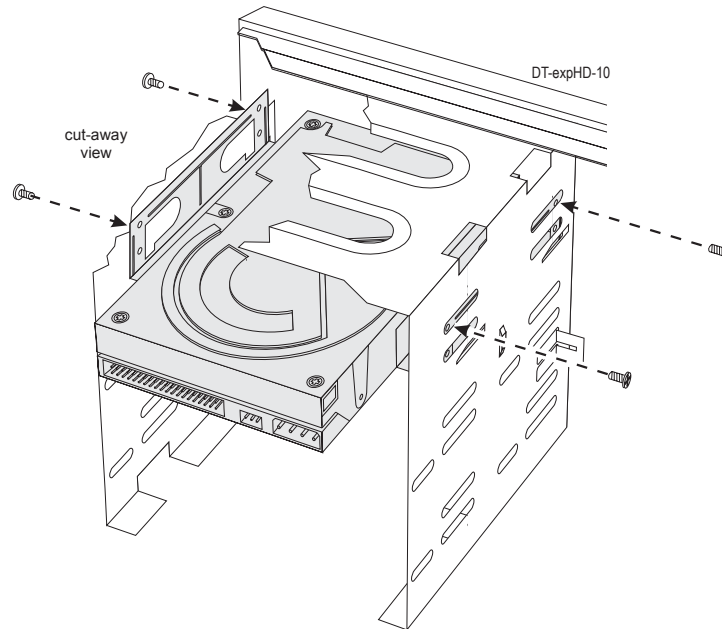

Figure 8
- Secure the expansion drive in place with four screws. See Figure 8.